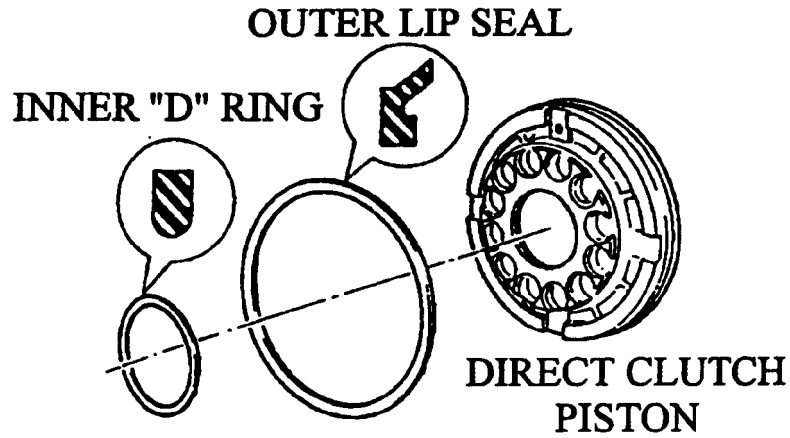

Figure 1
**CAUSE:** NO. (1) - It has been determined that the inner "D" ring on the direct clutch piston wears badly and/or shrinks, creating a leak of direct clutch oil at the inner seal (See Figure 1).